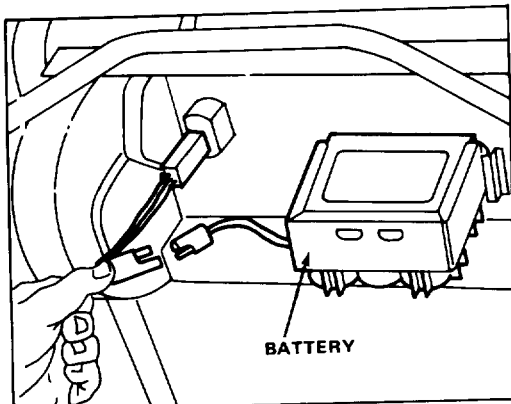

Figure 30
1. Stop engine and disconnect wire harness from battery terminal (Fig. 30).